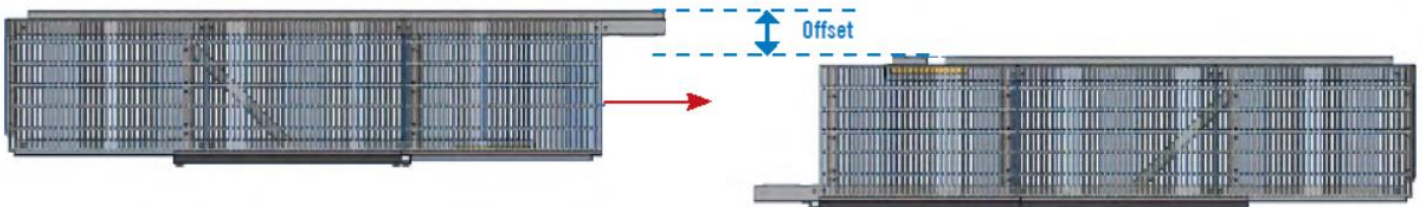

Figure 16. Platform Assembly Offset
3. Begin joining the platform sections by offsetting the sections from each other as shown in **Figure 16**.